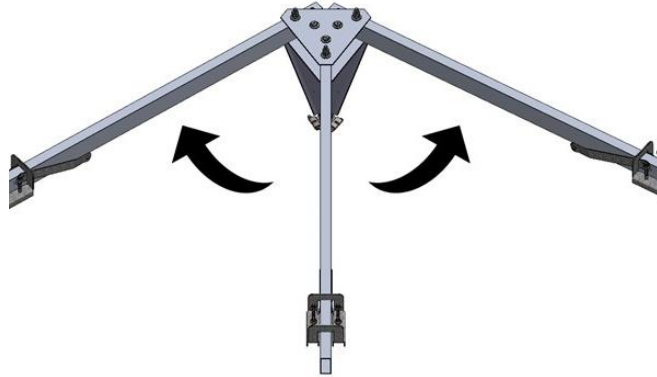

Figure 21 Extend tower base
1. Open 2 of the tower legs by removing the (2) 5-1/2" bolts as per Figure 21. Once fully opened, line up with the holes and reinstall the bolts to secure the tower legs.